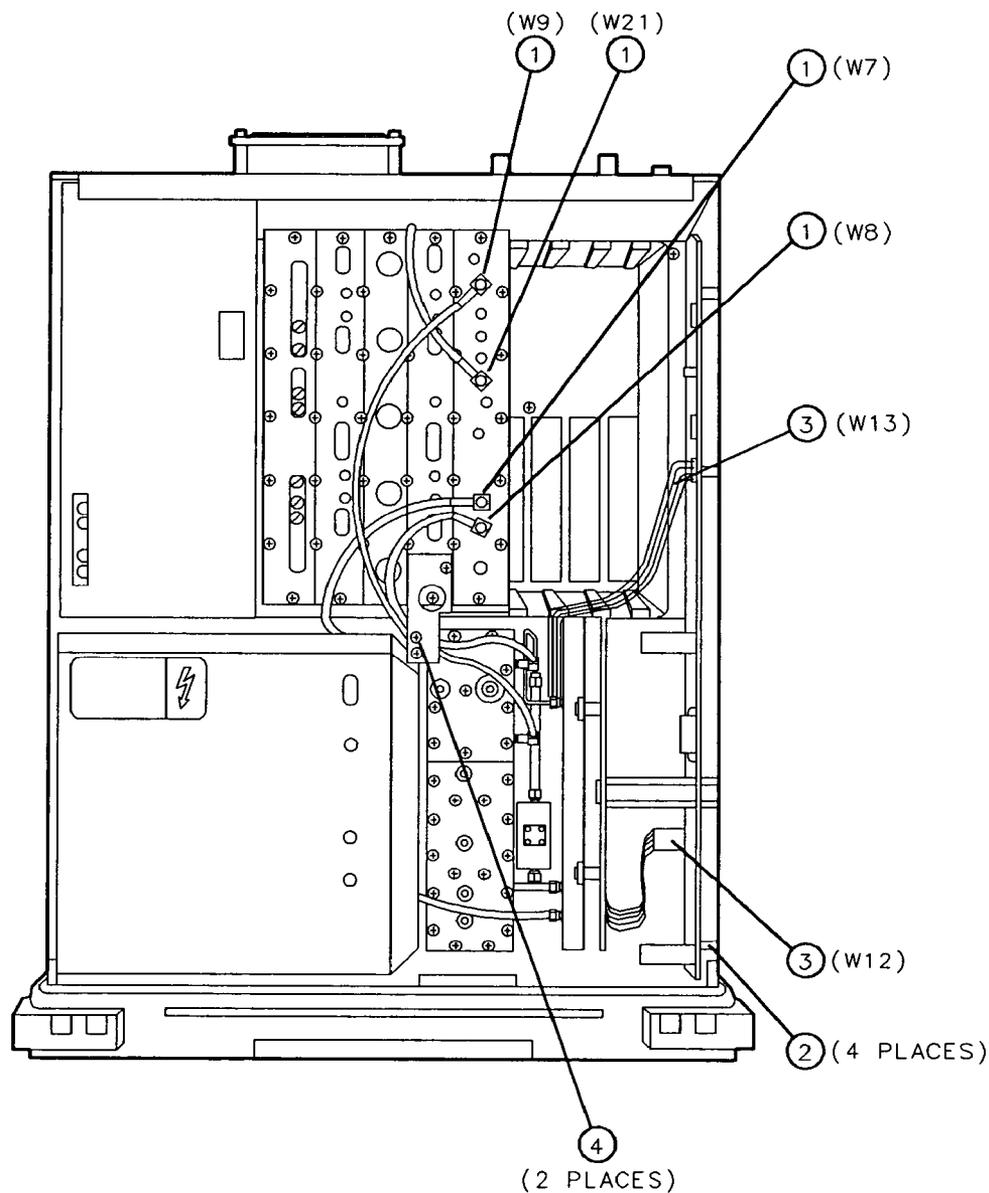

Figure 3-7. A15 Motherboard Replacement
3. Remove W7, W8, W9 and W21 (1) from the A9 Third Converter. See Figure 3-7.
20. Replace the five screws (9) that secure the A15 Motherboard to the instrument chassis.
21. Replace the five IF board assemblies (8) in the IF extrusion.
23. Replace the 40 screws (7) that secure the IF board assemblies in the IF extrusion.
24. Connect the B1 Fan wire harness (6) to A15J19 at the rear of the motherboard.
25. Connect the W19 coaxial cable (5) on A15J18 at the rear of the motherboard.
26. Replace the two screws and flat washers (4) on the front-end-to-IF support bracket. See Figure 3-7.
28. Connect W12 and W13 to the A7 assembly (3).